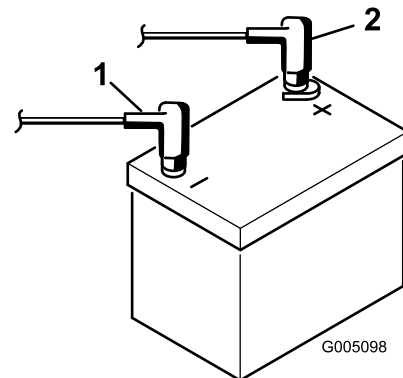

Figure 44
1. Disconnect the negative cable (black) and then the positive cable (red) from the battery (Figure 44).
6. Install the positive cable (red) to the positive (+) terminal and then the negative cable (black) to the negative (−) terminal of the battery (Figure 44) and secure them with the previously removed bolts and nuts. Slide the rubber boot over the positive terminal to prevent a possible short from occurring.